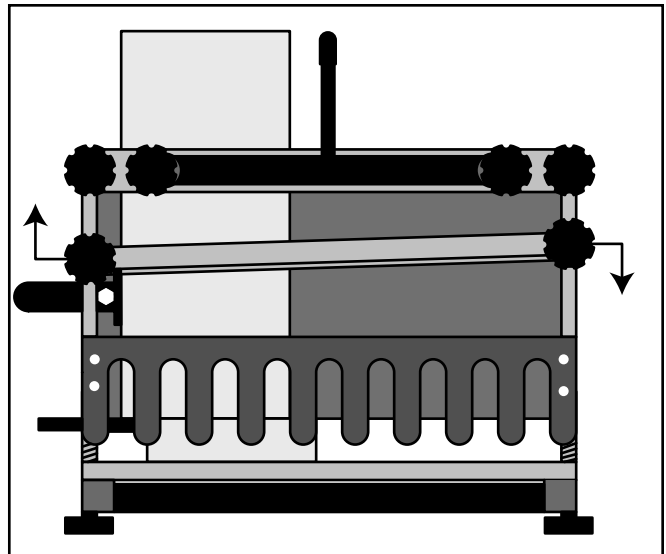

Figure 31. Adjust the fence so that it is parallel to the front edge of the template fingers.
2. The fence is not parallel to the front of the template. See **Figure 31**.